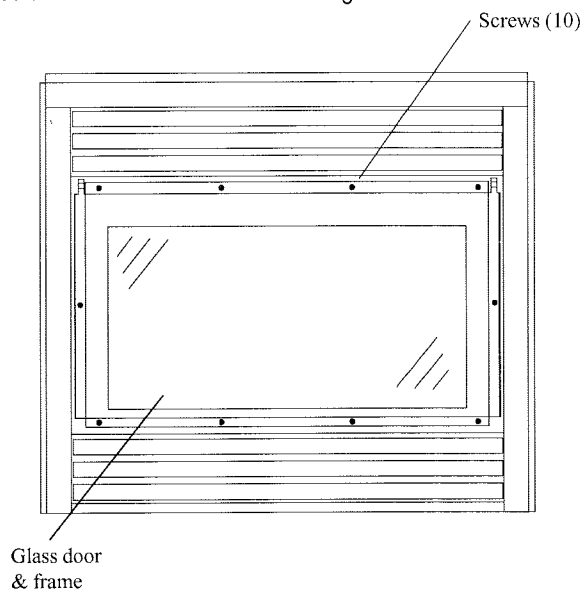

Figure 24b. Installing Glass Door.
To install/remove the glass door, simply attach/remove the ten (10) machine screws that hold door in place (*See figure 24b*). Ensure that a good seal is maintained when installing the door.